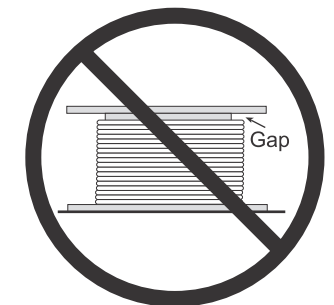

Figure 2
- 4.1** Do not store, set or transport a reel on one flange, i.e., on its side, because it will cause the cable to settle to one flange thereby creating a gap between the cable and flange (Figure 2).